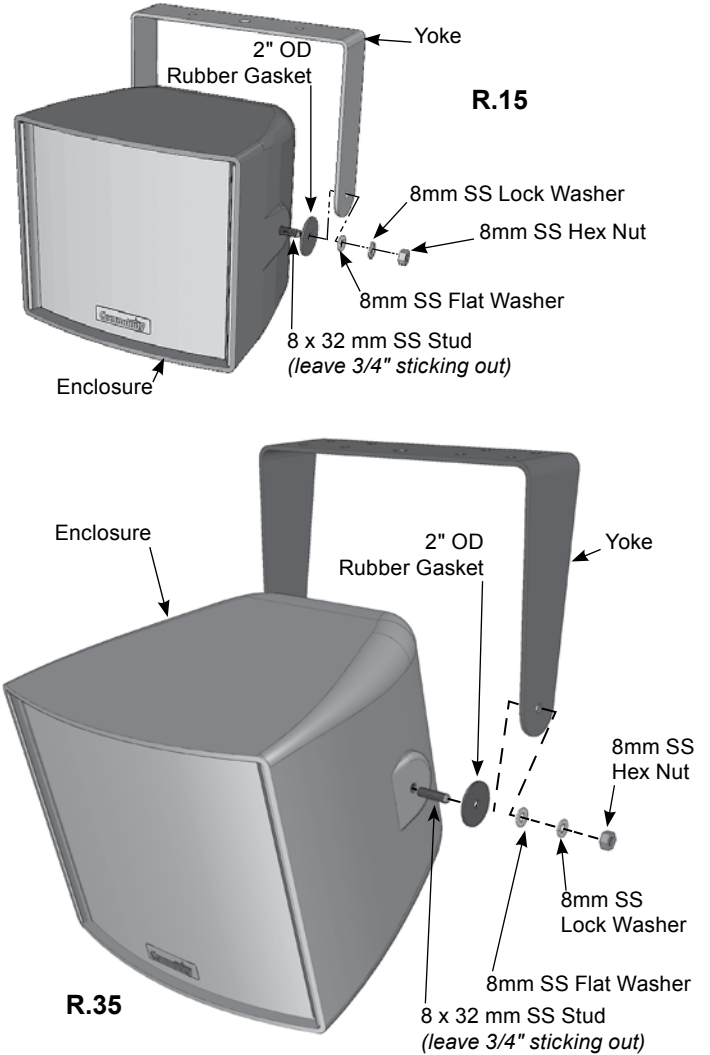

Figure 3. Mount the loudspeaker to the yoke
□ Attach the loudspeaker to the yoke. See **Figure 3**. Screw an 8mm stud into each side of the loudspeaker so that it protrudes about 3/4" (19mm). Place the rubber washers on the studs and then lift the loudspeaker into place between the yoke arms. Attach as shown. Support the enclosure until both sides are secured. Tighten bolts to finger tight (enough to hold the loudspeaker in position).